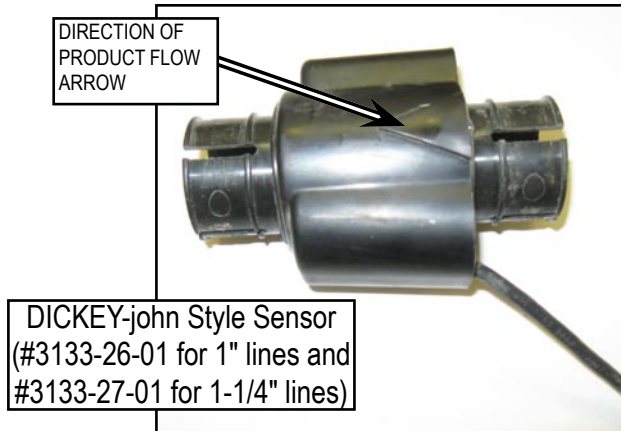

Figure 13.5 - BH Sensor (Blocked Head)
The BH sensors (*Figure 13.5*) are sized for 1" hose or 1-1/4" hose. A 7/8" adapter (*Figure 13.4*) (4 per sensor) is used to adapt the 1" sensor to the smaller size hose.
2. Mount a BH Sensor (*Figure 13.5*) onto ONE of the tertiary lines from each secondary manifold (refer to *Figure 13.7*).
DICKEY-john style sensors (*Figure 13.5*) have an arrow on them to show the install direction. Ensure that the arrow points in the direction of product flow OUT of the manifold head.